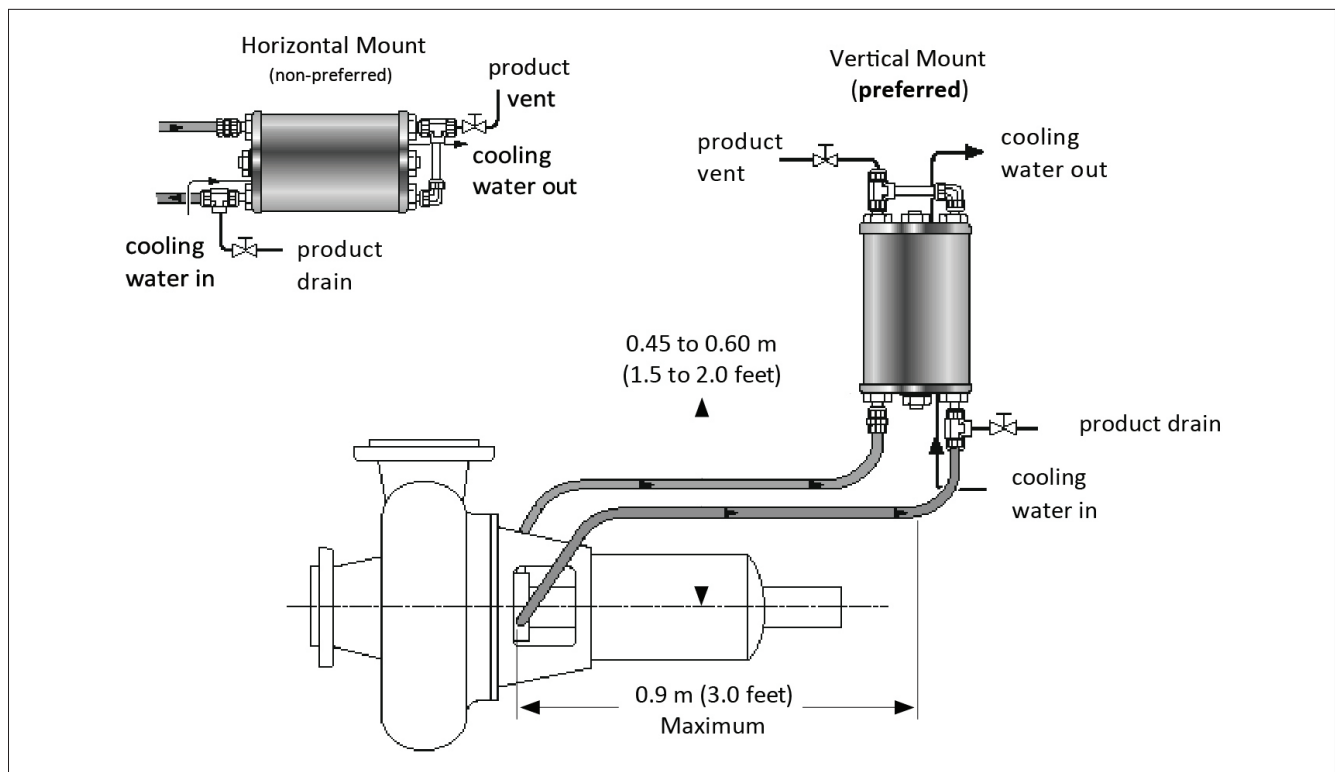

Figure 3: Series Tube Flow Piping
**API Plan 23** cools the seal chamber fluid by using a pumping device to circulate the seal chamber fluid through a seal cooler and back to the seal chamber. The circulated fluid is isolated from the pump impeller area by a throat bushing so that the seal cooler needs to cool a limited volume of fluid in the seal chamber heated by the seal faces and heat soak from the process side. This piping arrangement is the plan of choice for clean hot water services, particularly above 176°F (80°C) where water has low lubricity, and many clean hot hydrocarbons to improve vapor pressure margin. Refer to figure 3 in following page.